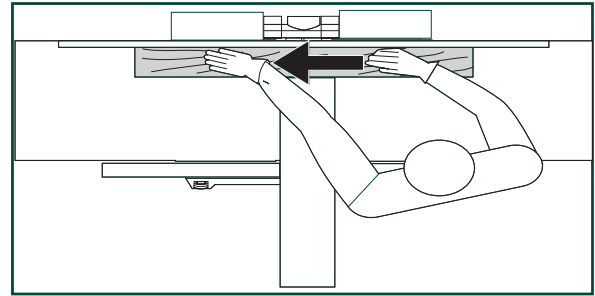

FIG. 33
- When jointing, the feeding direction of the workpiece is right-to-left over the cutterhead. FIG. 33.
1. Assume the proper operating position: stand to the side of the infeed table with feet apart for stability through the whole cutting process. FIG. 33.